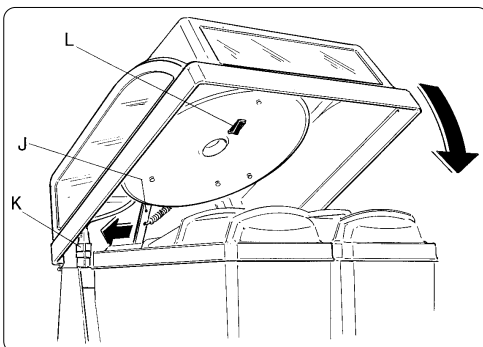

Fig. 9
- Close the cap (I) immediately and lower the lever (H) to create an airtight seal and to ensure the interior of the tank is pressurised and aseptic.
- Lower the cover (G), moving the lever (J) to the left as shown in the figure.
- Make sure the pin (K) of the cover is inserted into its socket so that the apparatus can be switched on immediately with the switch (L) (fig. 9).